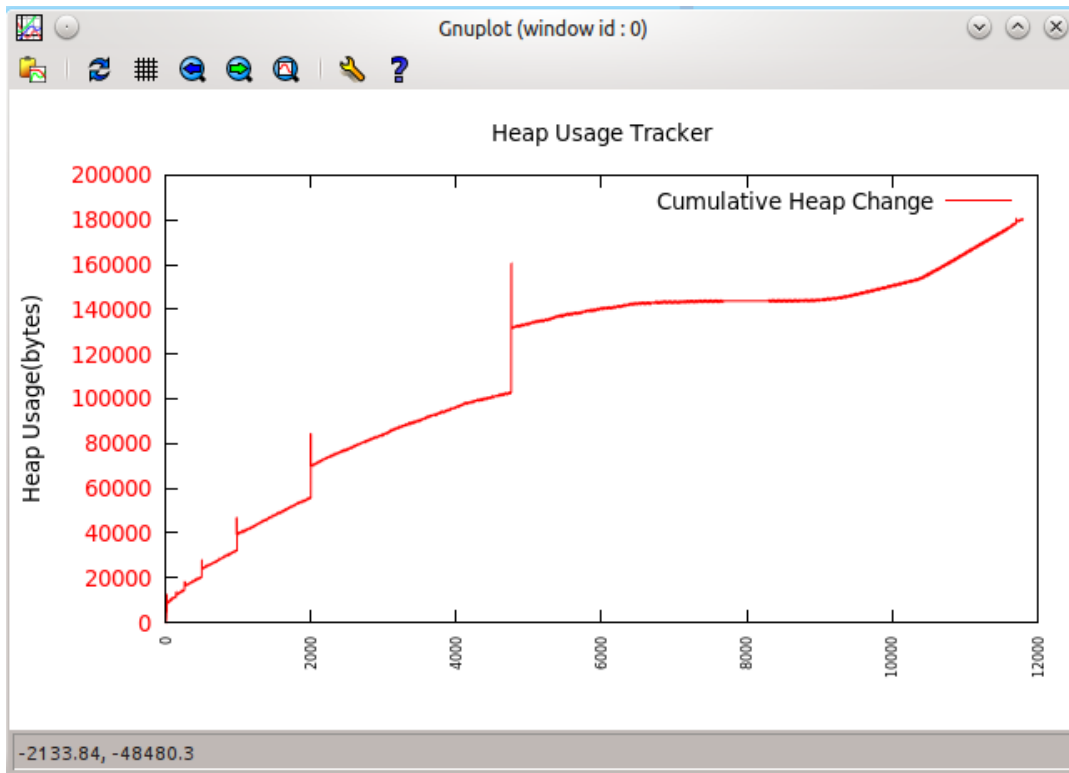

Figure 9: Example of output of malloc tracer
Since FTLs generally don’t have large memory, FTL should be optimized for memory consumption also. Your score on checkpoint 3 will depend partially on the peak memory consumed by your FTL. There are chiefly 4 sources of memory consumer: (1) Heap, (2) Stack, (3) Data and BSS. Of these, major consumer of memory is heap. To aid you, we have implemented a small functionality to visualize allocations on heap. Figure 9 is an example of output of malloc tracer.
In Figure 9 the x axis denotes the count of call to `malloc()/calloc()/free()` etc (as time increases) and the y axis denotes the heap in use by the FTL. A couple of things to note: